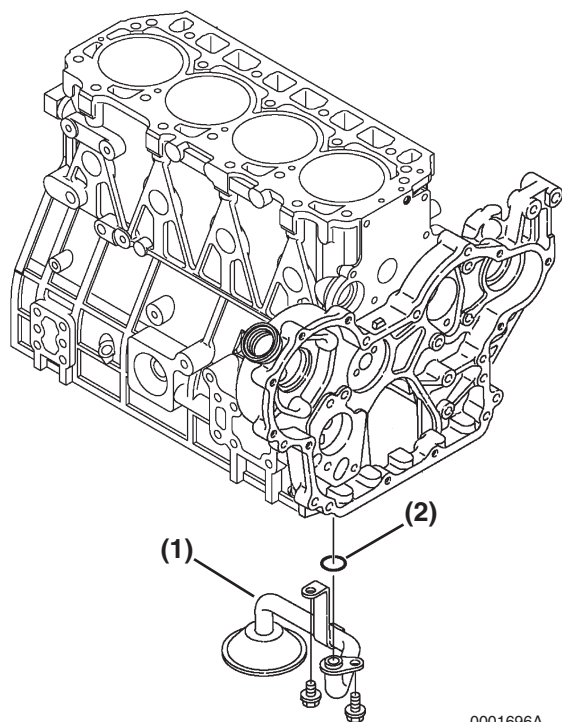

Figure 6-91
3. Remove the oil pickup tube (Figure 6-91, (1)) and O-ring (Figure 6-91, (2)).